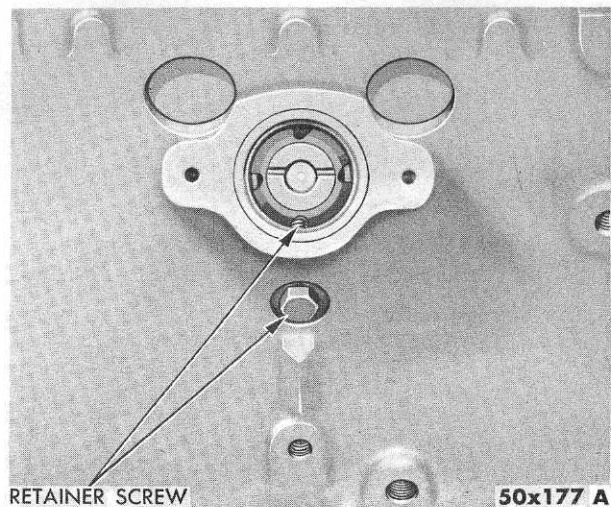

Fig. 20—Distributor Lower Drive Shaft Timing Position (B-4-R, B-4-T, B-4-V and B-4-Y)
- (5) Install the case cover, using new seals. Tighten with a torque wrench from 12 to 17 foot-pounds.
- (6) Install the distributor lower drive shaft assembly in the block, meshing it with the camshaft (Fig. 20). When meshing the